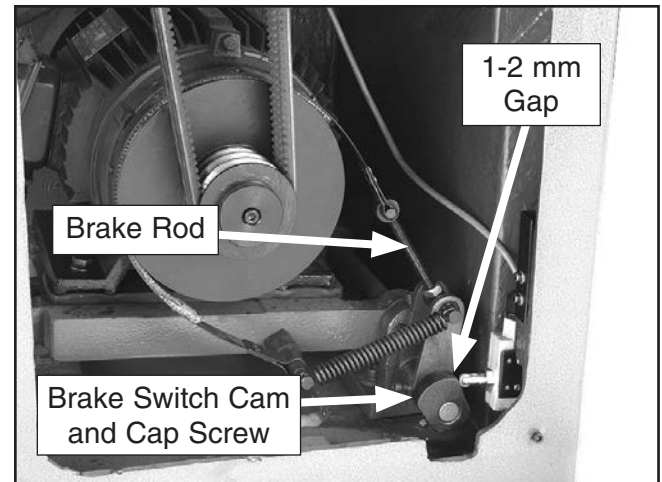

Figure 66. Brake band and switch.
3. Using a wrench, adjust the brake rod (**Figure 66**) so, when the foot pedal is pressed, the brake band firmly clamps the drum. When released, the brake band should be loose on the drum.
4. Adjust the brake switch cam so when in the released position, there is 1 to 2mm gap between the cam and the brake switch push-rod roller (**Figure 66**).